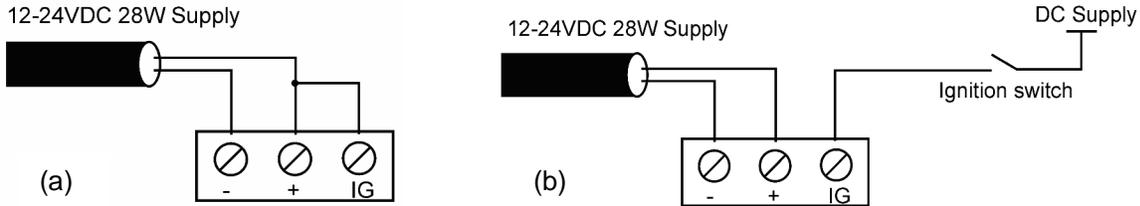

Figure 3: DC switched connection
- § Connect power according to Figure 3.